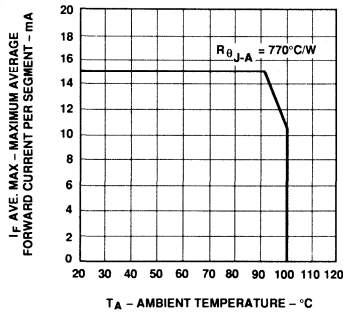

Figure 6. Maximum Allowable Average or DC Current vs. Ambient Temperature.
- Derate above 91°C at 0.53 mA/°C (see Figure 6).